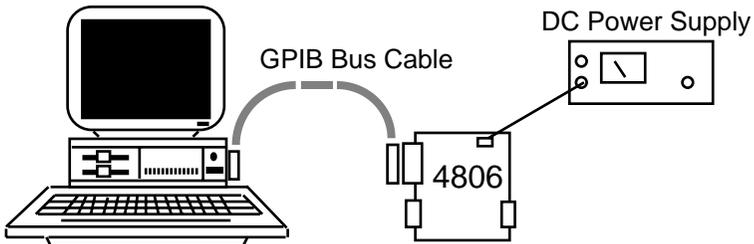
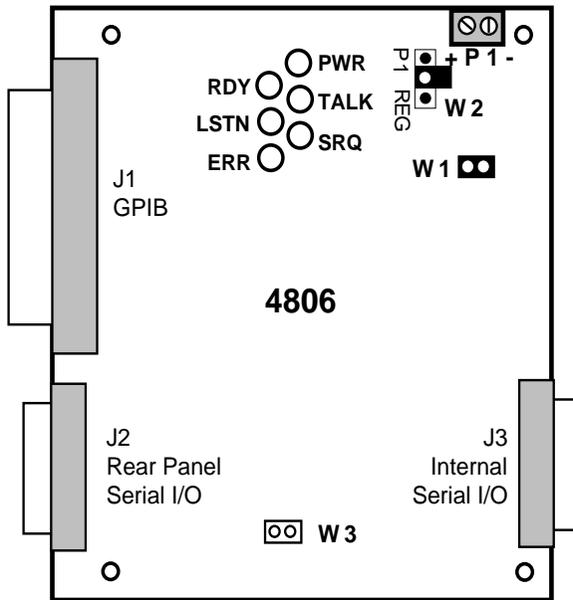

Figure 2-2 4806 Configuration Setup
Figure 2-3 4806 Jumper Locations
1. Connect the 4806 to the GPIB controller card in the PC as shown in Figure 2-2. Connect a DC power supply to the power terminals on the 4806 card. See Figure 2-3. Set the power supply to 5 ± 0.25 Vdc.
The program branches to the selected product menu and asks for the unit's current GPIB address. Enter a one or two digit value ; i.e., 4, 04, 10. The factory default setting is 4. If you do not know the unit's GPIB address, turn the unit off and back on. The unit will blink its GPIB address on the front panel LEDs at power turn-on. Add the bit weights to get the GPIB address. LED locations are shown in Figure 2-3.
- b) For other units, turn the unit off and back on. At the end of its self test, the unit blinks its GPIB address on the LEDs. See Figure 2-3 for LED locations.
Power is applied to the 4806 at P1 which is a two screw terminal block. See Figure 2-3 for P1 polarity. Use either 5 Vdc regulated power or 5.25 to 12 Vdc unregulated power.
If you have forgotten the unit's GPIB address, momentarily turn the unit off and back on. At the end of the self test, the unit will blink its GPIB address on its diagnostic LEDs using the following bit weights. See Figure 2-3 for the LED locations.